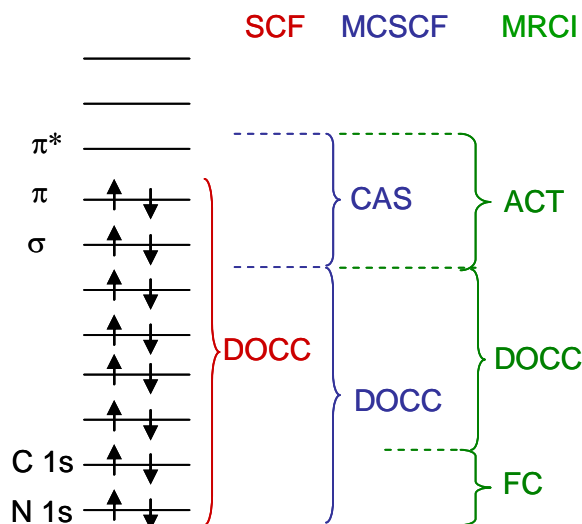

Fig. 1. Scheme of orbital occupation for MRCI(4,3) and CASSCF(4,3).
1. Fill out the occupation table according to Fig. 1.